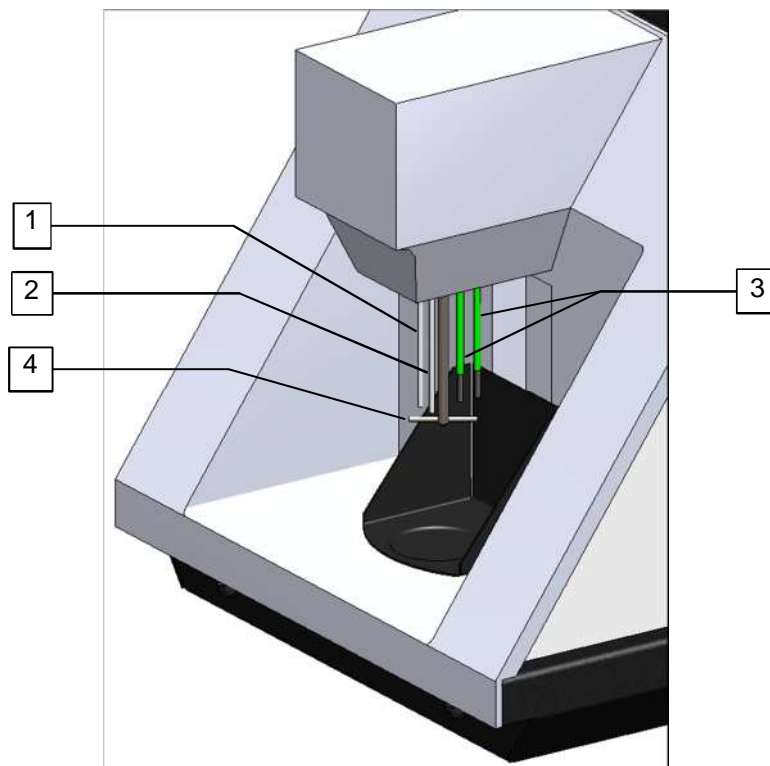

Figure 2.1 Electrode Head
1. Fit the two shorter, sleeved electrodes into the two rear positions on the underside of the electrode head, Item 3, Figure 2.1. Ensure both electrodes are pushed firmly into their sockets behind the protective rubber boots.
2. Insert the stirrer through the stirrer hole and push it firmly into its coupling, as shown in Figure 2.1, Item 4.
3. Insert the cathode (un-sleeved, short electrode) through the left-hand hole and push it firmly into its socket, as shown in Figure 2.1, Item 1.